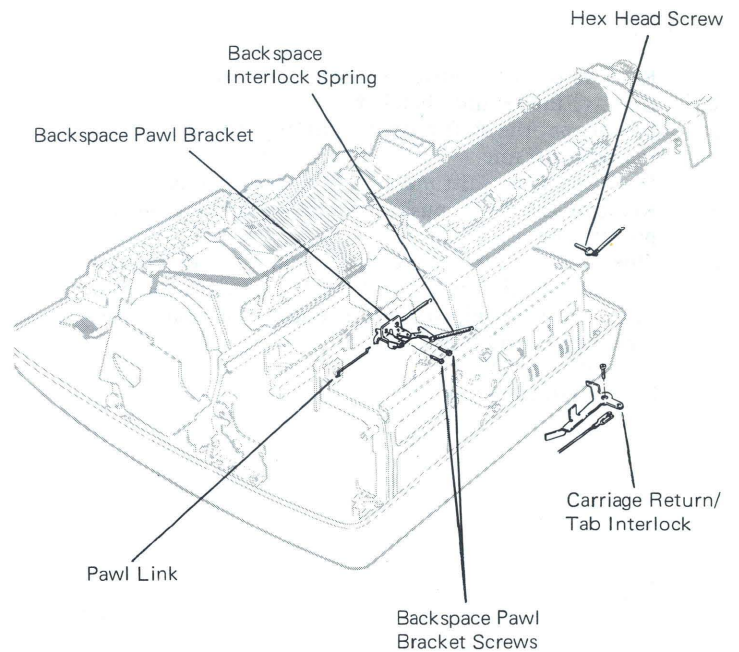

Figure 17 – C1, D1 Backspace Pawl Removal
2. Remove the carriage return/tab interlock (Figure 17)